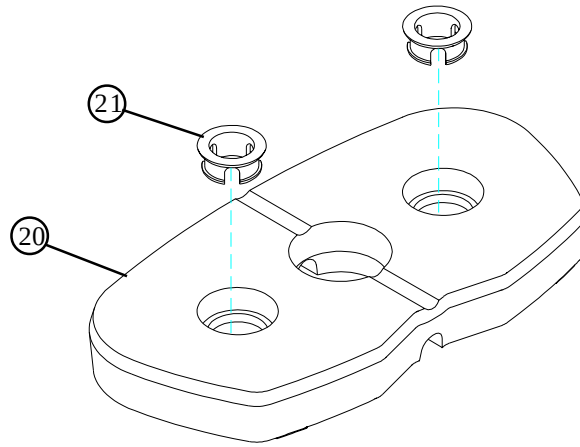

FIGURE 4
- Insert two WEIGHT PLATE BUSHINGS (21) into each of the fifteen WEIGHT PLATES (20) as shown in FIGURE 4.
- **SECURELY** assemble the STACK BASE (1) to the BASE FRAME using two 3/8 X 4" BOLTS (15), two previously removed 3/8 X 4-1/4" BOLTS, eight previously removed 3/8" WASHERS and four previously removed 3/8" LOCK NUTS as shown in FIGURE 4.